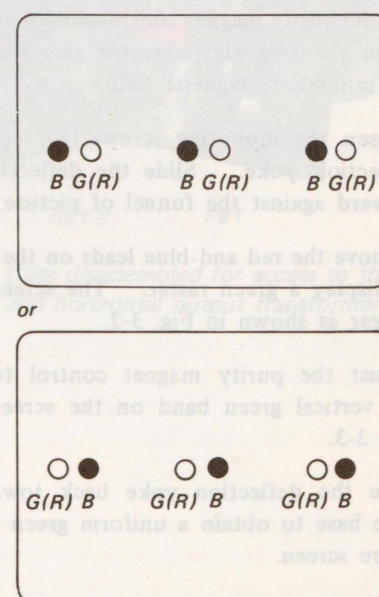
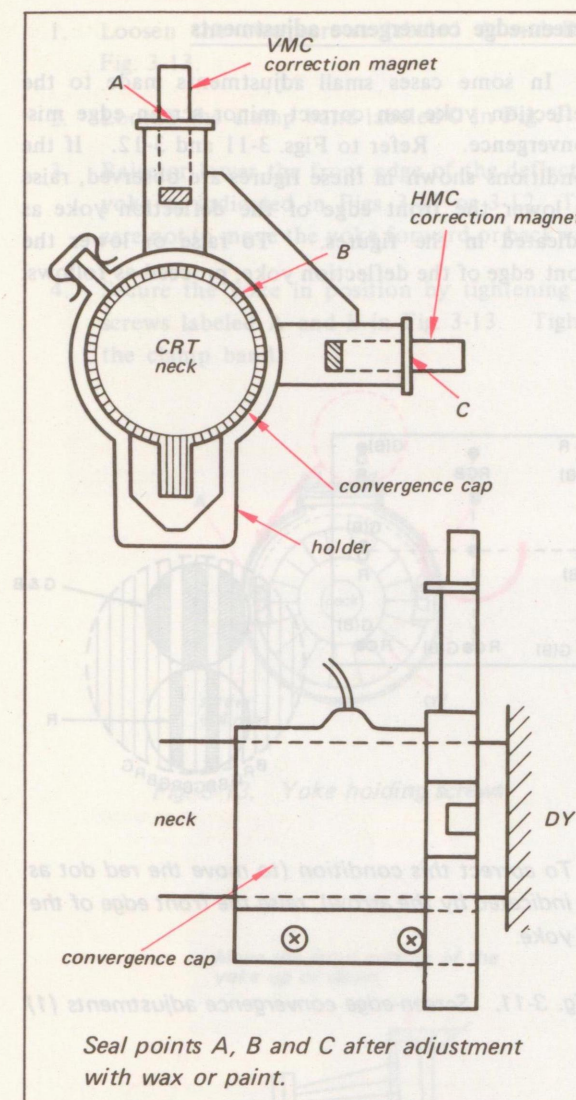

Fig. 3-5. Horizontal magnetic convergence (HMC) control adjustment
Fig. 3-6. Holder for HMC and VMC, and setting position
- If the blue dot does not converge with the green and red dots at the center of the screen, adjust the horizontal magnetic convergence control (HMC) as necessary. See Fig. 3-5 and Fig. 3-6.